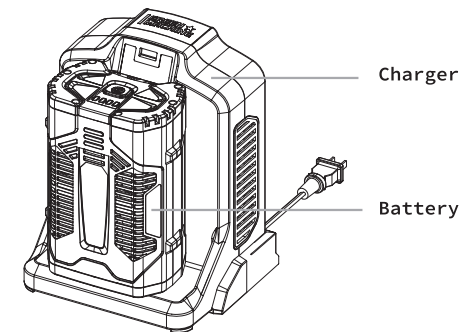

Fig. 2
3. Align the raised ribs of the battery pack with the mounting slots on the charger. Connect the two and click the battery into place (Fig. 2).